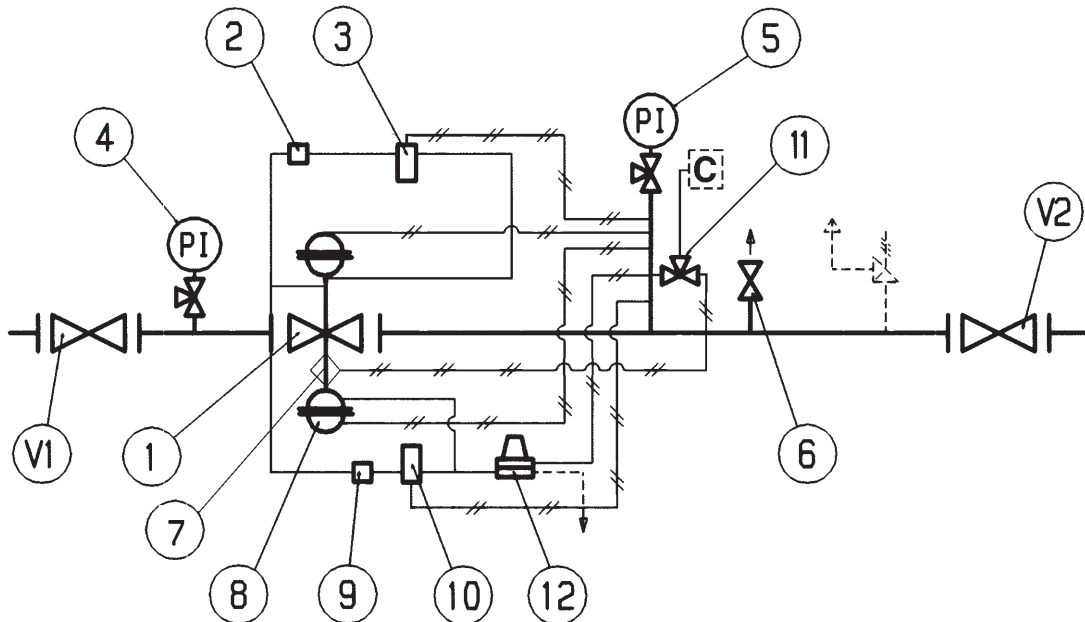

Fig. 22
5.4 IMBETRIEBNAHME "TERVAL R" MIT SCHLISSBESCHLEUNIGER (ABB. 22)
5.4 MISE EN SERVICE "TERVAL R" AVEC VANNE D'ACCELERATION (FIG. 22)